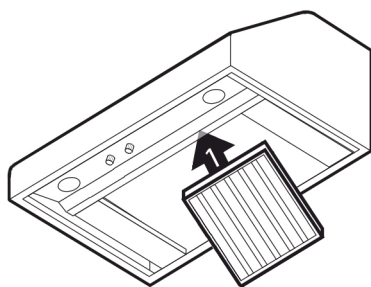

FIGURE 19: INSTALL THE STAINLESS STEEL BAFFLES – PART A
- a. Angle the baffle filter and insert front edge into front channel of hood (FIGURE 19).